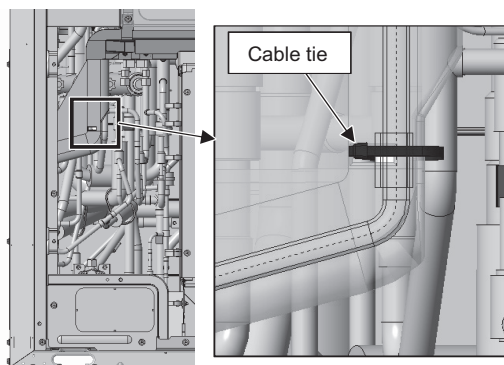

Figure 11
- (4) Thread a cable tie through the rectangle hole on the screwed-down drain cover, and hold the silicon tube and the defrost pipe together in place. (See Figure 11.)